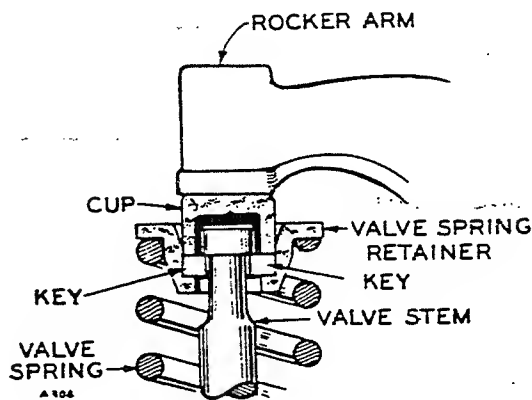

FIG. 22. VALVE ROTATORS
**VALVE SERVICE.** - The engine is equipped with the "FREE" ROTO type valves (also known as the release type valve rotators) see Figure 22. The valve rotates by using a special valve spring retainer and cap. While the valve is lifted, it is free to rotate due to natural vibration and turbulence of the exhaust gases and this scuffing action prevents the formation of any troublesome deposits.
The rotator mechanism has a clearance between the valve tip and the rotator cap, as shown in Figure 22. This clearance is required to obtain positive freedom of the valve during the lift cycle. Wear occurs principally on the keys and clearance should be checked at each re-conditioning. Wear tends to increase the clearance and cause increased valve lash. Regular service stations have **gauges** to check the rotator clearance and where the clearance is too large it can be reduced by grinding off the cap to decrease its depth. The rotator parts tend to become matched parts within each assembly as they wear in. For this reason it is highly desirable to keep the parts from each assembly separate during the servicing operation and to reassemble them with their original valve wherever possible. In addition each key should be installed in its original position and not turned over. If it is necessary to use a new valve, new caps and keys should be installed.